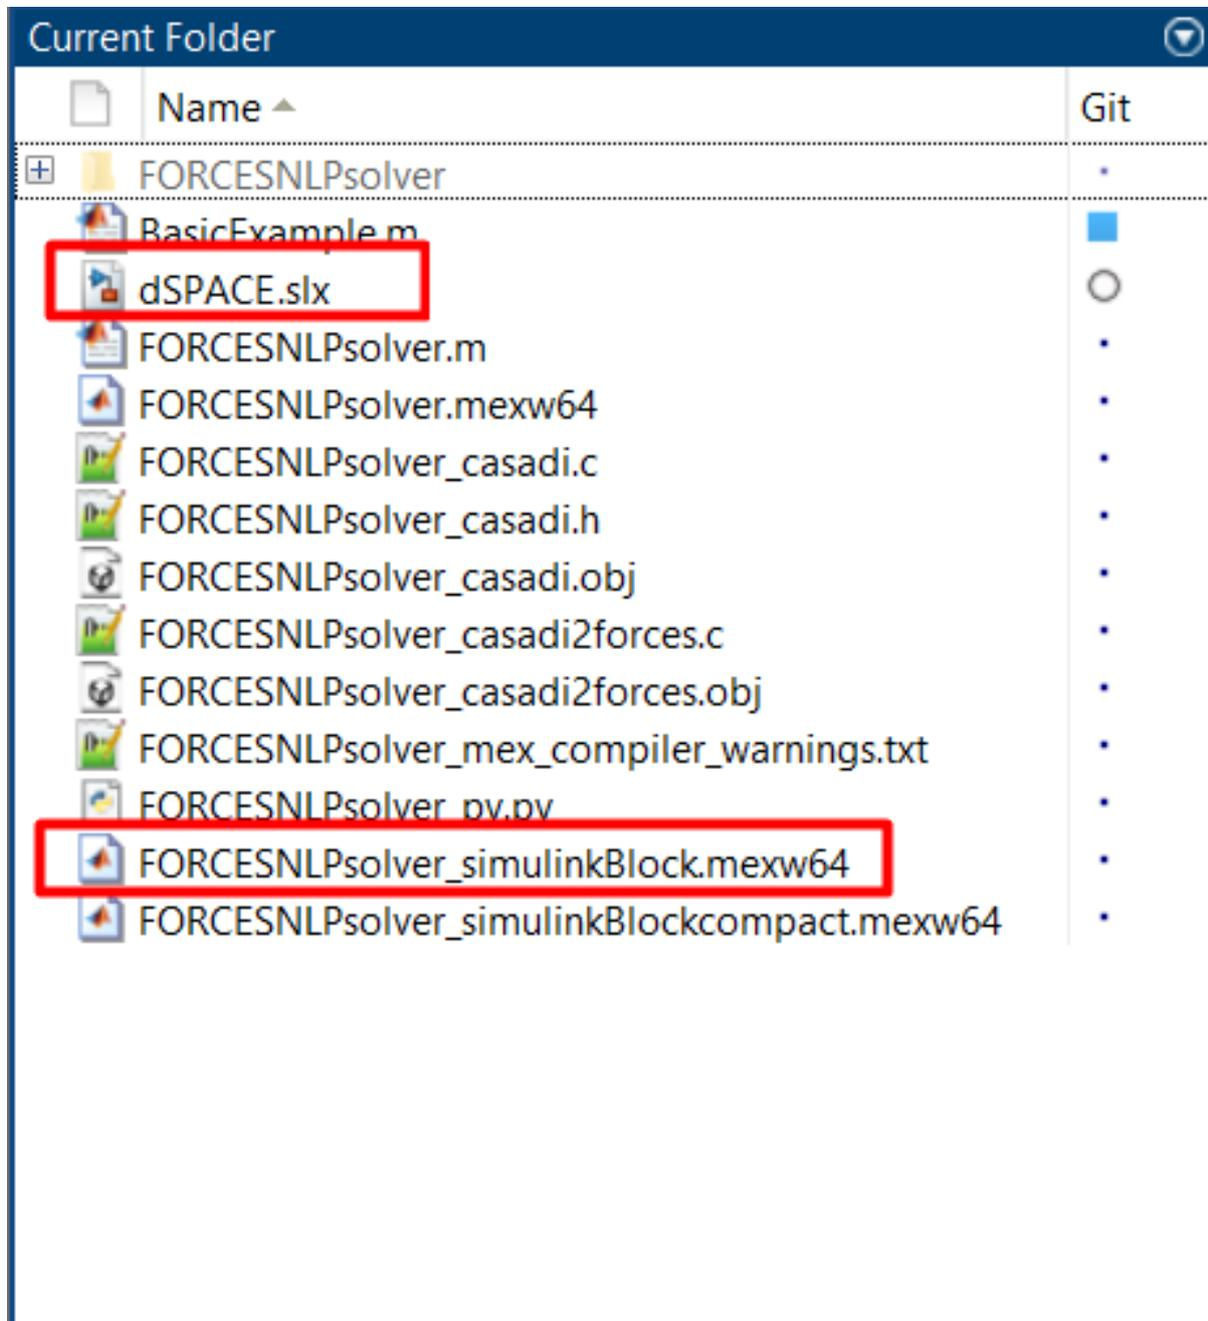

Figure 13.34: The `.<mex_extension>` solver file is in the same path as the model.
- 5) The FORCESNLPsolver_simulinkBlock.<mex_extension> file (created during code generation) needs to be in the same path as your model (see Figure 13.34).